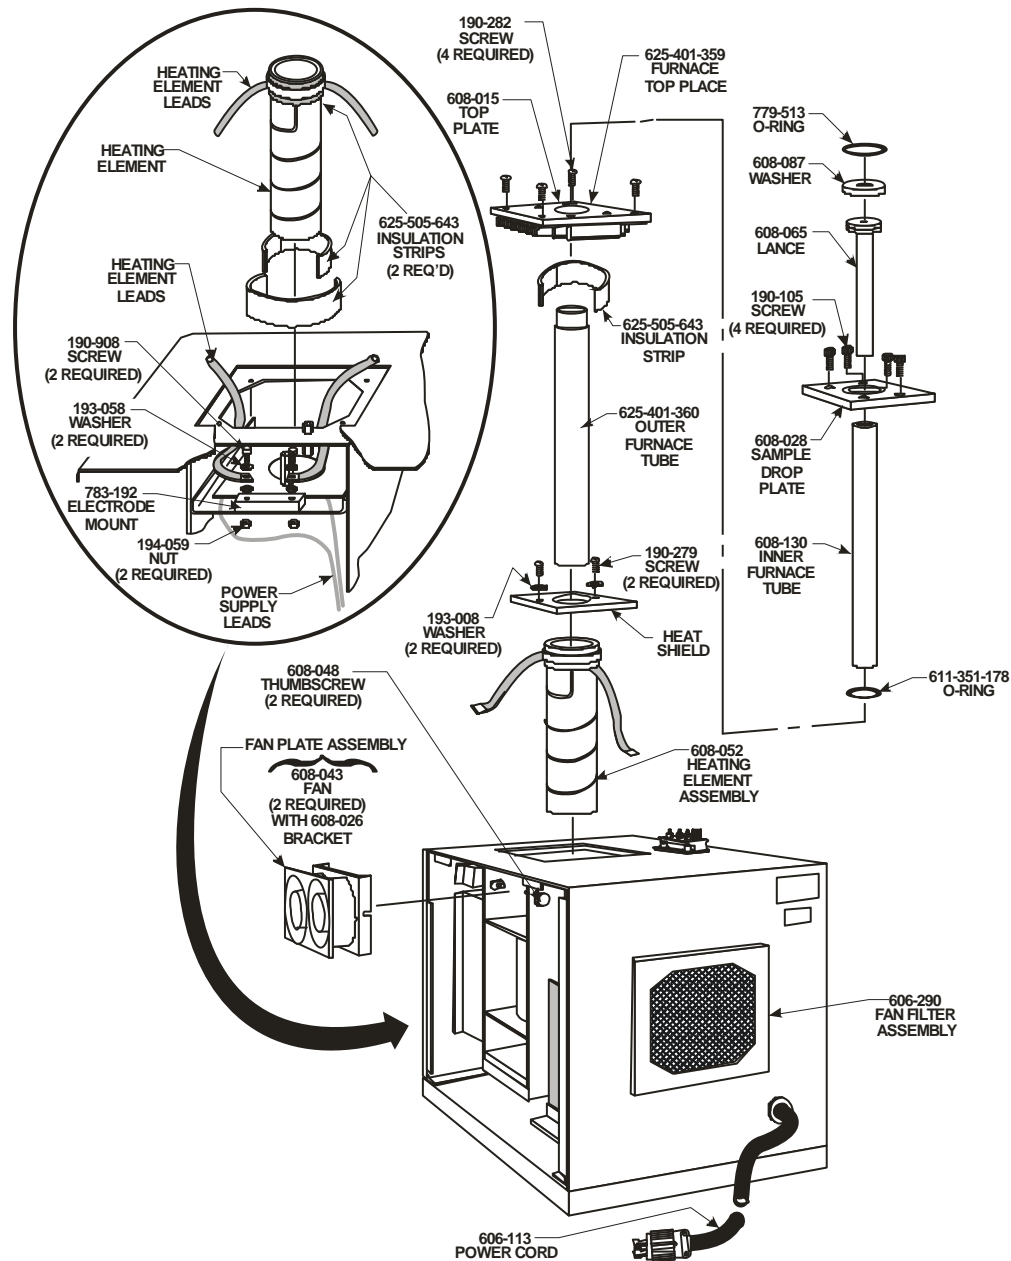

Figure 3-12
3. Fill the bottom half of the tube with anhydrous. Refer to Figure 3-12 below. Fill the top half of the tube with Lecosorb.
11. Install connector J514F from the AC power harness to connector J514F on the right side panel. Refer to figure 3-12 on page 3-49.